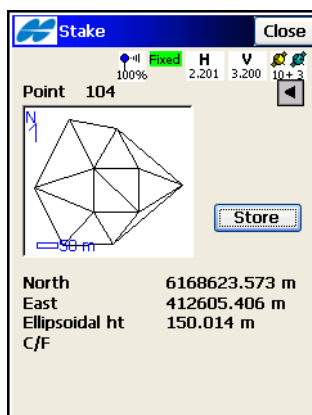

Figure 9-50. GPS Stakeout
6. For GPS+: use the information on the **Stakeout** screen for finding the target. Tap **Store** after the position is close enough to the desired point (Figure 9-50 on page 9-38).